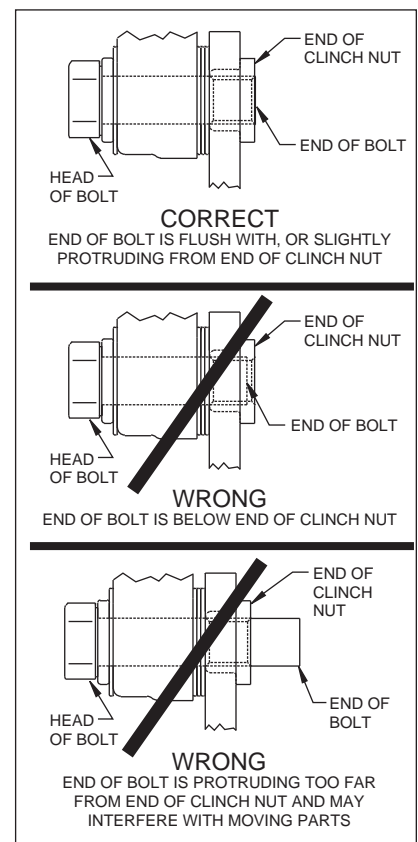

Figure 5.
- Install the dust cap (18) onto the hub (7). Friction created by the o-ring (17) on the dust cap (18) keeps it from unscrewing. The O.D. of the existing spindle washer may be larger than the I.D. of the dust cap (18) which may allow the washer to contact the dust cap (18). Use the spindle washer (15) supplied with the kit instead of the stock washer.
- **NOTE:** Please reference the caution statement at the beginning of the assembly instructions. Mount the caliper (19) onto the caliper bracket (1) using two bolts (21) and two washers (20). Finger tighten. View the rotor (11) through the top of the caliper (19). The rotor (11) should be aligned in the center of the caliper (19). If not, loosen the two bolts (21) and adjust the caliper (19) by using 0.035 inch thick shim washers (22). The shim washers (22) should be placed between the caliper (19) and the caliper mounting bracket (1). Finger tighten and recheck alignment. Add as many shim washers (22) as necessary to achieve the correct alignment. **NOTE:** The end of the bolt must be flush with or slightly protruding from the head of the clinch nut. See Figure 5. Place spare shims (22) between washer and caliper mounting ear to achieve the proper mounting fastener configuration. Always use the same amount of shims on both the top and bottom caliper mounting bolts (21). Loosen the two bolts (21) and apply red *Loctite*® 271 to the bolt threads (21) and torque to 40 ft-lb. Caliper mount bolts may be safety wired for additional security.
- Install the disc brake pads (23) into the caliper (19). Secure the disc brake pads to the caliper utilizing cotter pin (24).